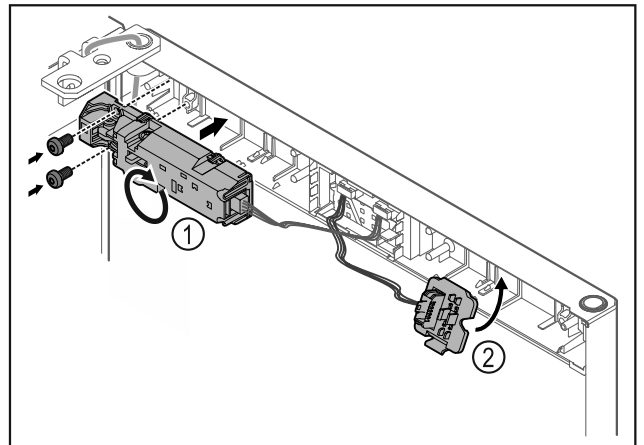

Fig. 19
- ▶ Turn the remote lock Fig. 19 (1) by 180° and fasten it on the opposite side.
- ▶ Snap in the plug holder Fig. 19 (2) on the opposite side.